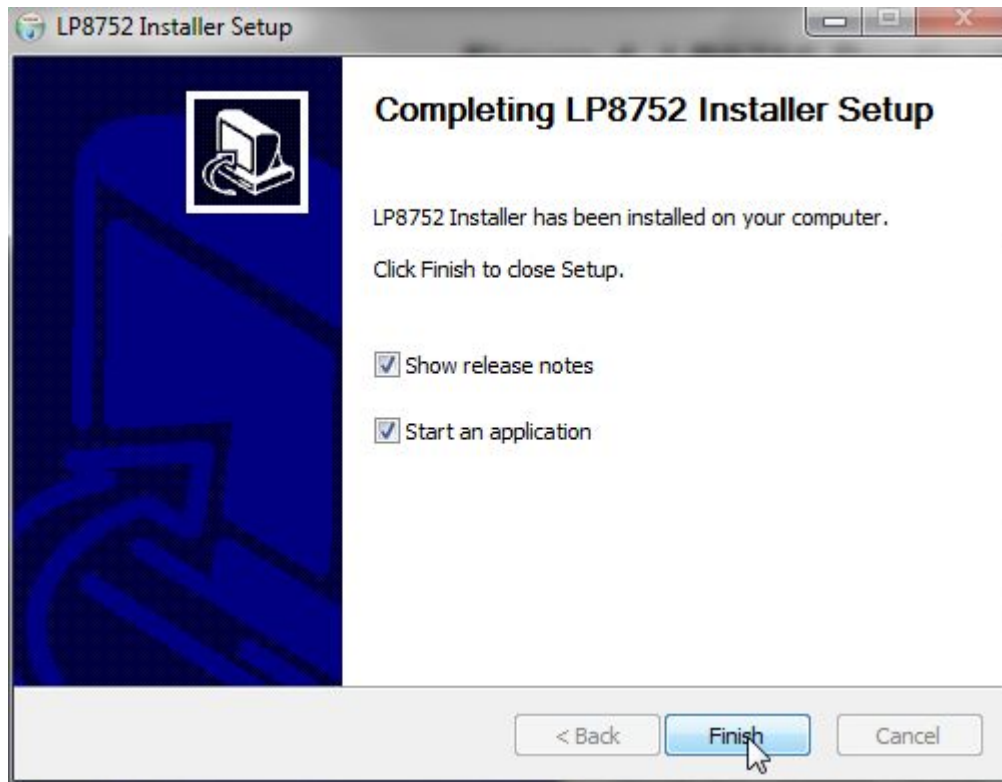

Figure 5. LP8752 Installation Complete
6. Installer prompts when installation is complete (see Figure 5).